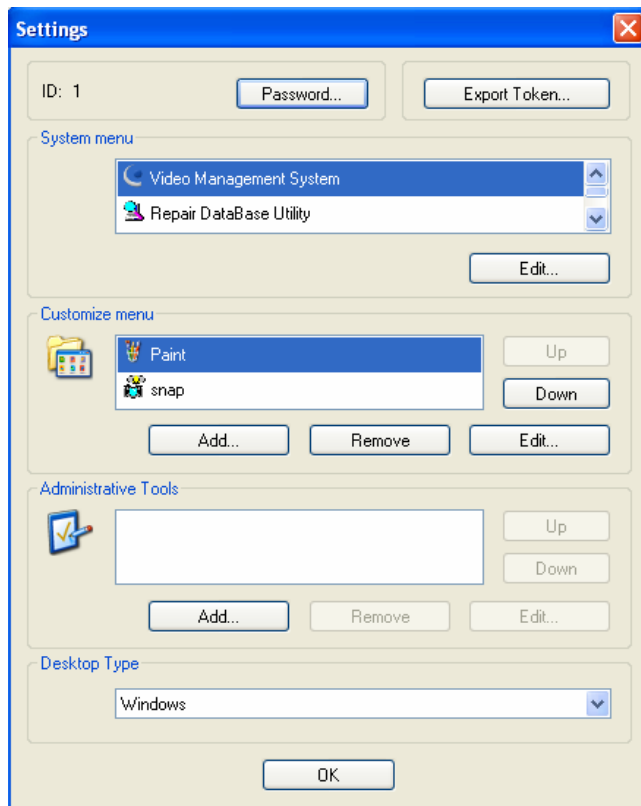

Figure 9-10
1. Click the **Export Token** button (Figure 9-10). This dialog box appears.
2. When the Settings window (Figure 9-10) appears, select **Windows** in the Desktop Type field and exit from the window.